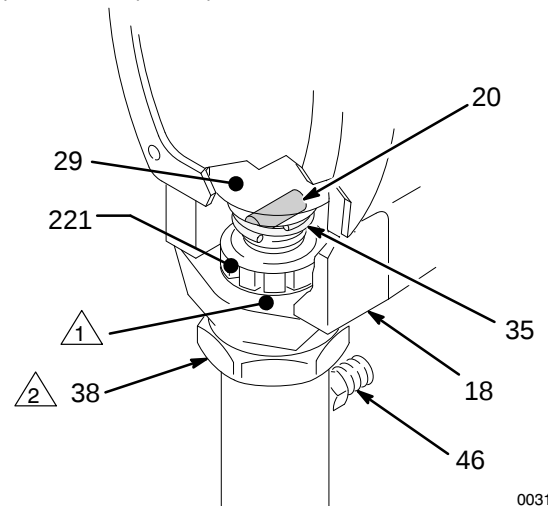

Fig 31
Install the pump See Fig 31.
Be sure the retaining spring (52) is firmly in the groove of the connecting rod, all the way around, to prevent the pin (20) from working loose due to vibration. Refer to Fig 31.